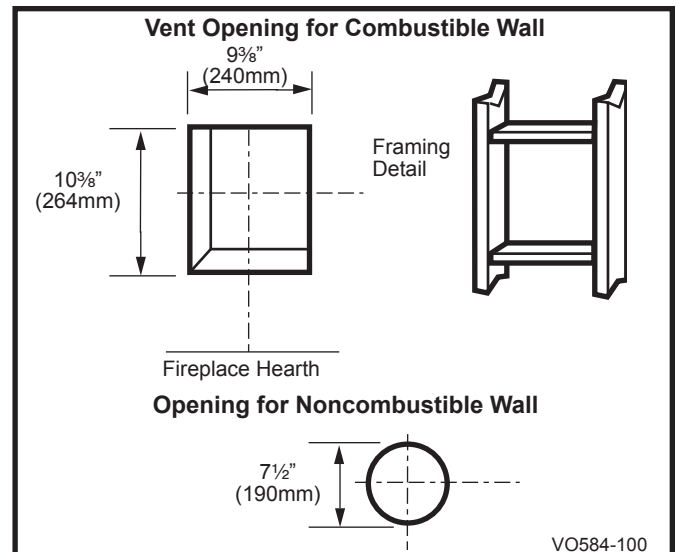

Fig. 15 Locate vent opening on wall.
**Combustible Walls** (Fig. 15): Cut a 103/8" H x 93/8" W (264 x 240 mm) hole through the exterior wall and frame as shown.
**Noncombustible Walls** (Fig. 15): Hole opening must be 71/2" (190mm) in diameter.